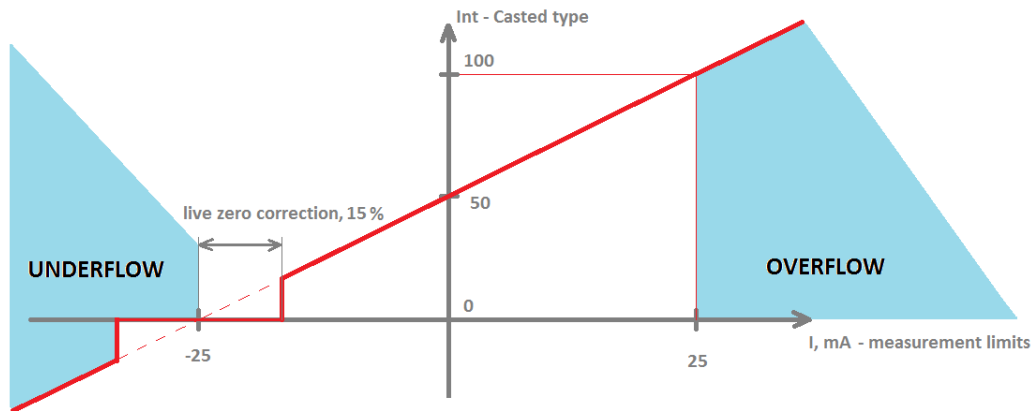

Fig. 1. Conversion graph from raw measurement to cast integer
6. Fig. 1. shows how raw measurement (current in this case) is converted to an integer type. Conversion is done by defining measurement limits (from -25mA to 25mA) and casting data range (from 0 to 100). Measurement limits define thresholds for overflow and underflow errors respectively; casting data range defines limits (from 0 to 100) that value should be between after recalculation. Such a recalculation can be used in applications that require measurements in relative units such as percentage.
A device can round measurements to lower conversion limit (in this case – to zero) if a measurement is near it:  $\pm 15\%$  of measurement value (Fig. 1.). Live zero correction is a useful option for eliminating noise. As signals always have some noise level, such an option can compensate it to get a true zero value.